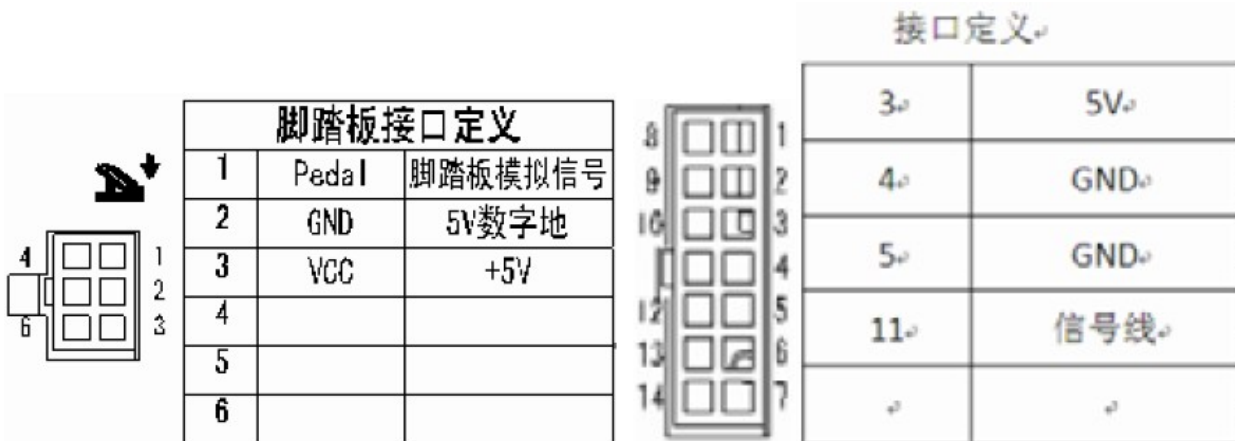

图1-2 控制器接口定义
将脚踏板及机头的各连接插头安插到控制器后面对应的插座上如图1-1所示，各插座名称如图1-2所示。连接好，请检查插头是否插牢。例图1-2所示。连接好，请检查插头是否插牢。①LED灯和传感器插座；②抬压脚电磁铁插座；③脚踏板插座。
Connect the pedal and the nose or the plug placed behind the controller corresponding to the socket as shown in figure 1-1, the name of the socket as shown in figure 1-2. Connection is good, please check whether the plug is stuck. Example shown in figure 1-2. Connection is good, please check whether the plug is stuck. LED lights and sensors socket; (2) the presser foot electromagnet socket; The pedals socket.